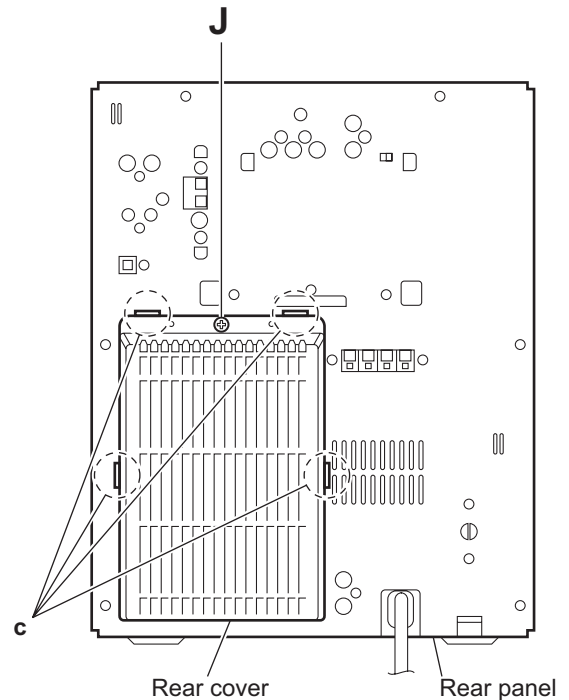

Fig.10
- (1) From the back side of the main body, remove the screw **J** attaching the rear cover. (See Fig.10.)
- (2) Release the sections **c** and remove the rear cover from the rear panel. (See Fig.10.)